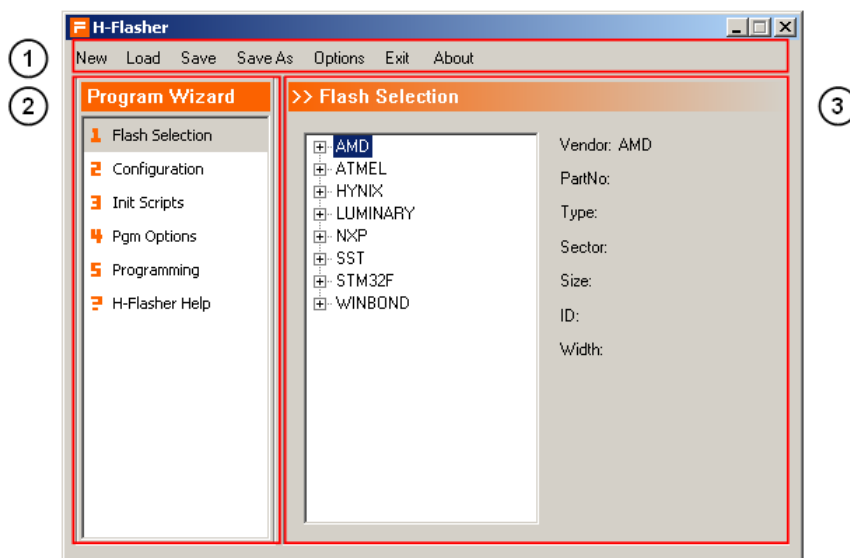

Fig 2-17 Main Window of H-Flasher
The main window of H-Flasher looks like Fig 2-17. In the figure, (1) is the menu, (2) is the program wizard and (3) is the configuration area. In the wizard, user can go to different steps. According to the selection on the wizard, the configuration area has different displays. For detailed information, please refer to Chapter 5.